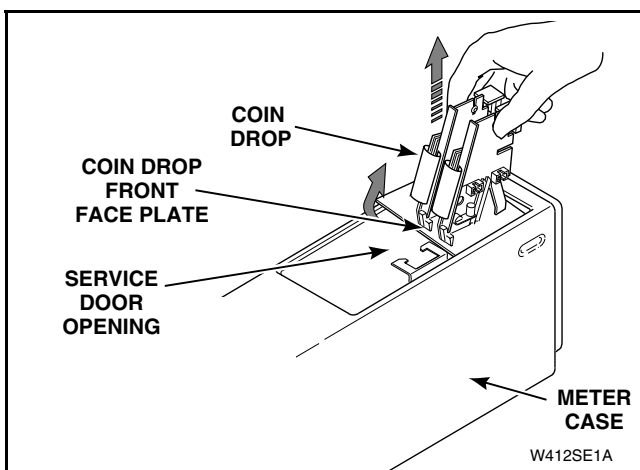

Figure 15
- k. Carefully lift complete coin drop straight up and out of meter case. Refer to *Figure 15*.
**NOTE:** When lifting drop out of meter case, tip drop slightly so front face plate clears service door opening. Refer to *Figure 15*.